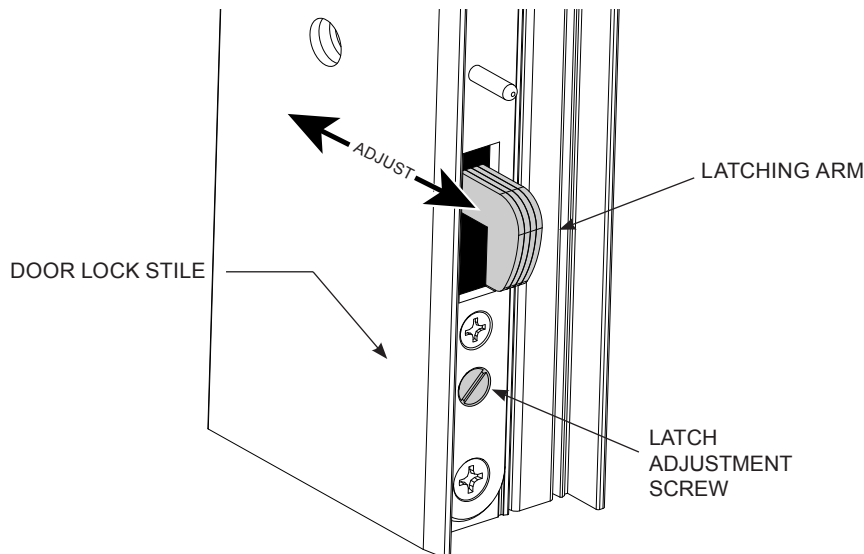

FIG. 34
3. Use the latch adjusting screws to independently adjust the latching arms in or out. With the door closed and latched, slide the door back-and-forth. Adjust the latching arms to allow for 1/16" (2 mm) of travel. (FIG. 34)